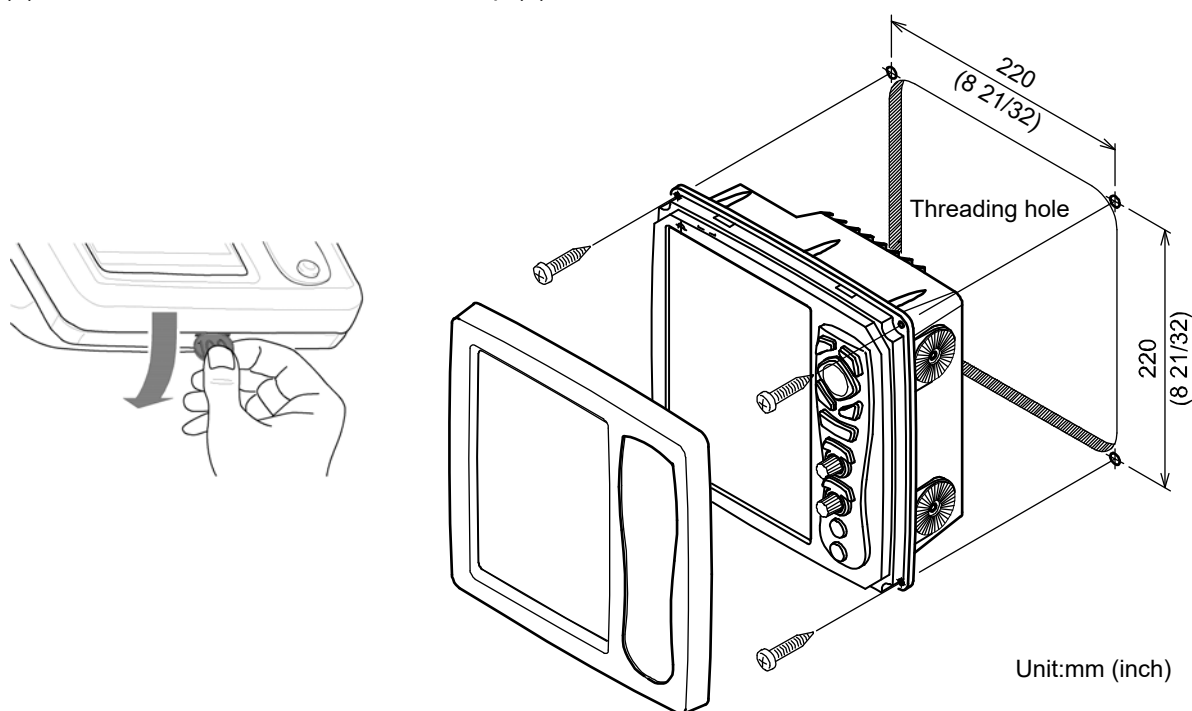
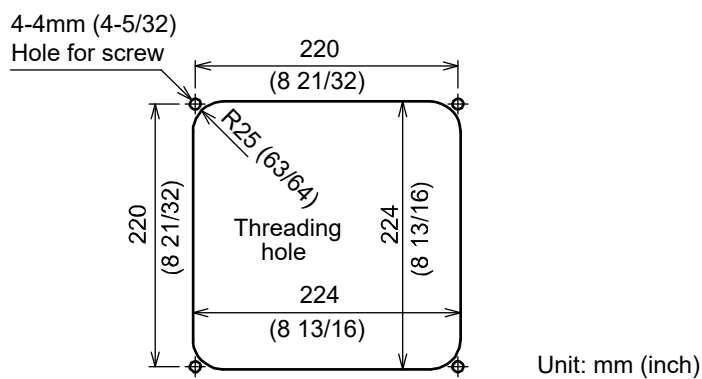

Fig. 5.4 Flush-mount Installation
Fig. 5.5 Work of flush-mount installation hole
- (1) Make a square hole at the location to be installed. (See Fig. 5.5.)
- (2) Turn counter-clockwise the knob bolt fixing the display unit to the mounting bracket to loosen it, push the unit to the left side and pull the unit upward. The mounting bracket and knob bolt are not used.
- (3) Confirm that the unit matches with the square holes. If not matched, correct the square hole.
- (4) Remove the front frame of the display unit, pulling it toward you. (See Fig. 5.4.)
- (5) Connect the connectors for power and transducer to the unit respectively.
- (6) Install the display unit in the installing location (square hole) and fix it with four tapping screws (4mm) (M4 or pan-head). (Prepare 4mm screws suitable for thickness of installing location.)
- (7) Install the front frame removed in step (4).